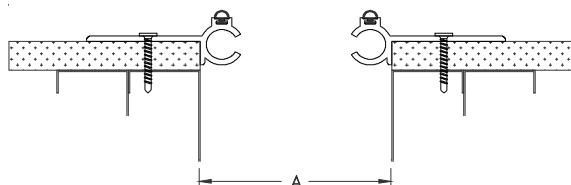

Figure 6
**STEP 7.** Select a base member, and place it into its installed position. Ensure that the base member is level and properly aligned and that the anchor holes in the base member are properly aligned with any anchor holes in the fire barrier retainers, or flanges, and the substrate. Using the anchors provided by the factory, attach the base member to the wall. Repeat this procedure for the opposite base member (see Figure 6).